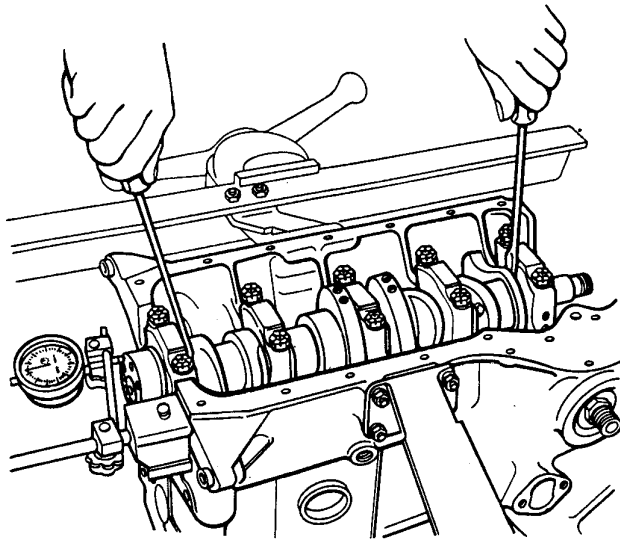

Fig. 2-39. Checking Crankshaft End Clearance
- install an indicator on a magnetic support and insert the blades of two screwdrivers as shown in Fig. 2-39;